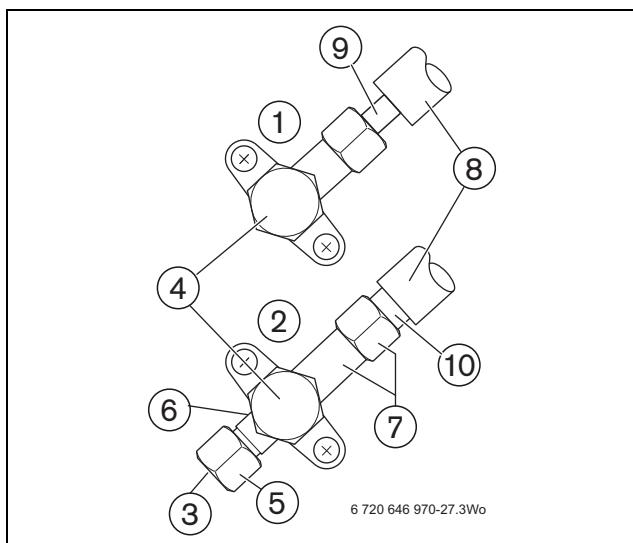

Fig. 32 Shut-off valves, refrigerant circuit
- ▶ Ensure that the shut-off valves on the pipe work for liquid [1] (→ Fig. 32 and page 29) and gaseous refrigerant [2] (→ Fig. 32 and page 29) are closed and do not open them.
- Connect a high performance vacuum pump to the Schrader valve (→ Fig. 32, [3]).